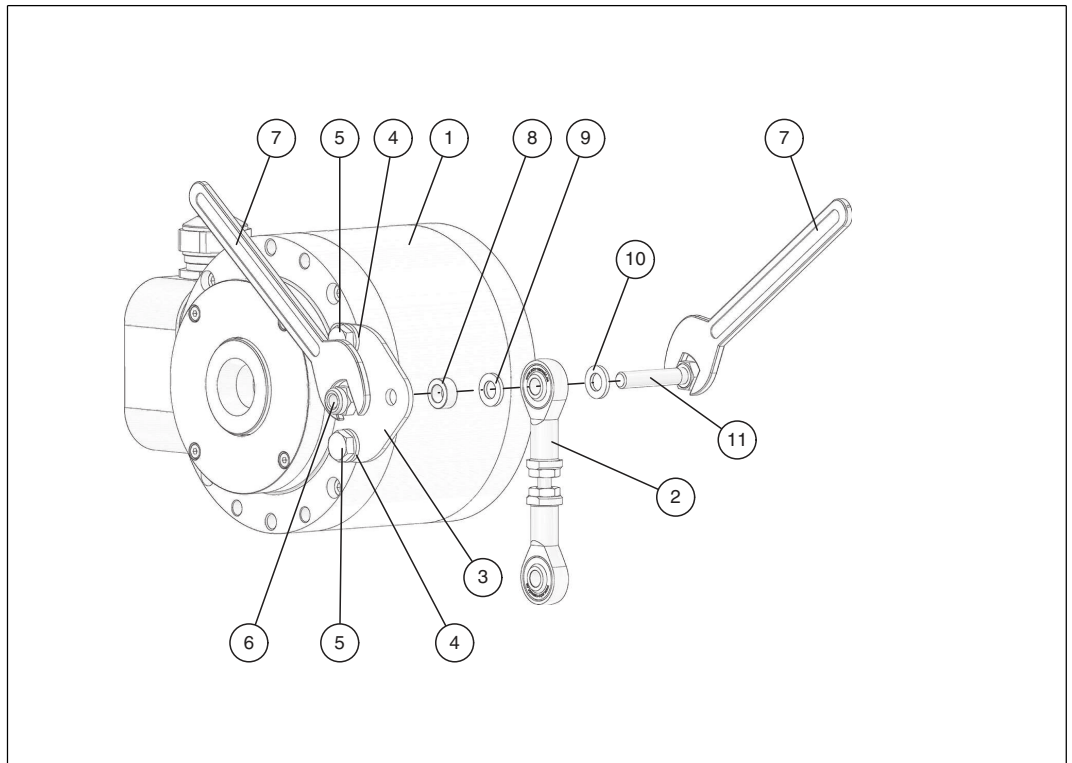

Figure 5.5 Mounting of the support plate and extension arm on the rotary encoder
3. Mount the extension arm on the support plate, → see Figure 5.5 on page 14.